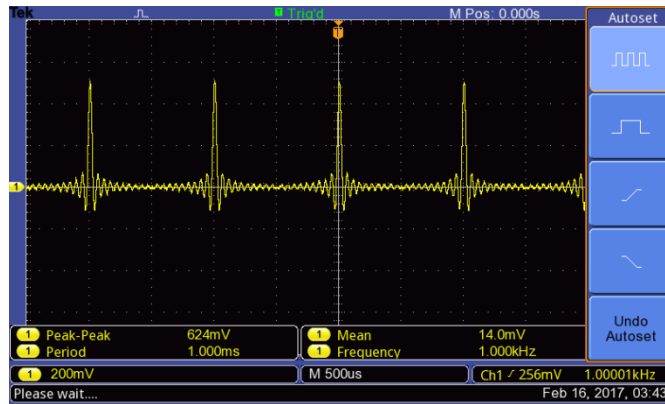

Figure 3: Sinc waveform.
2. You will probably see the Sinc waveform (the default for Arb). See Figure 3.